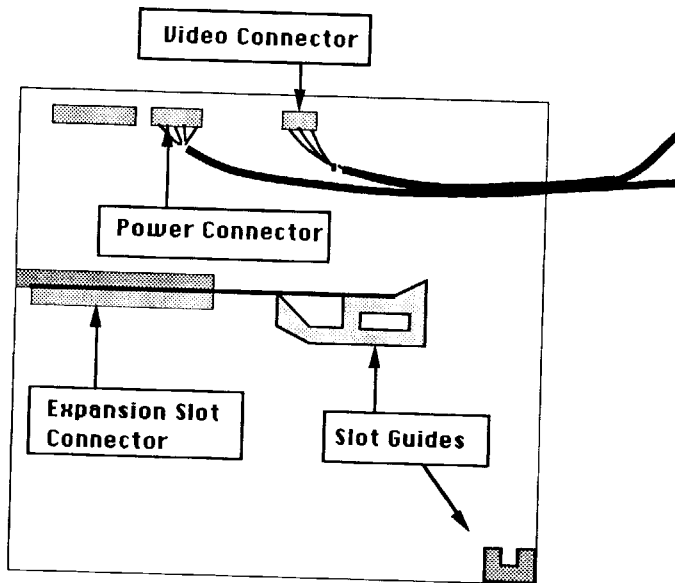

Figure 4
3. When the two screws are removed, pull the lower panel up and toward you. Now the computer main board will be visible. See Figure 4.